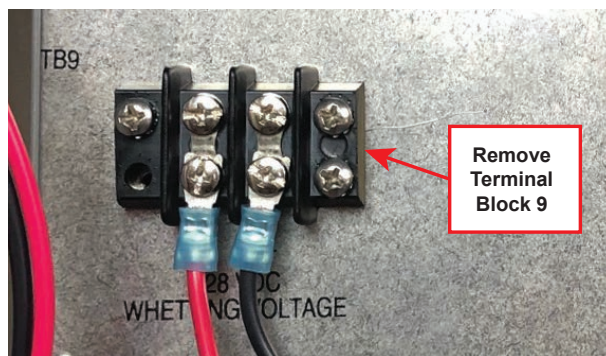

Figure 11 Eaton Cooper Form 6 Terminal Block 9
3. Remove Terminal Block 9 from the back of the Eaton Cooper Form 6 Control (Figure 11), by removing the screws from the corners of the terminal block. Save two of the screws. These will be used to re-install this terminal block onto the M-2406 Adapter Chassis panel.